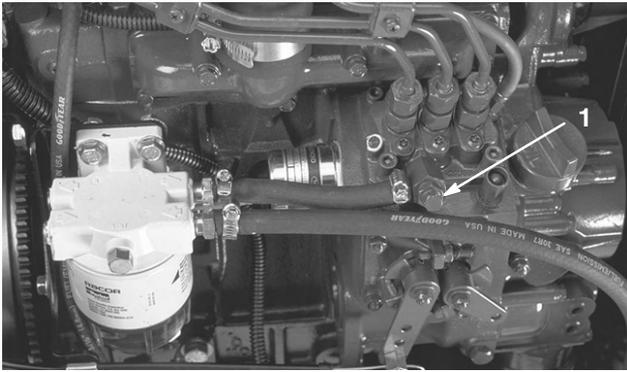

Figure 21
3. Open the air bleed screw on the fuel injection pump (Fig. 21).